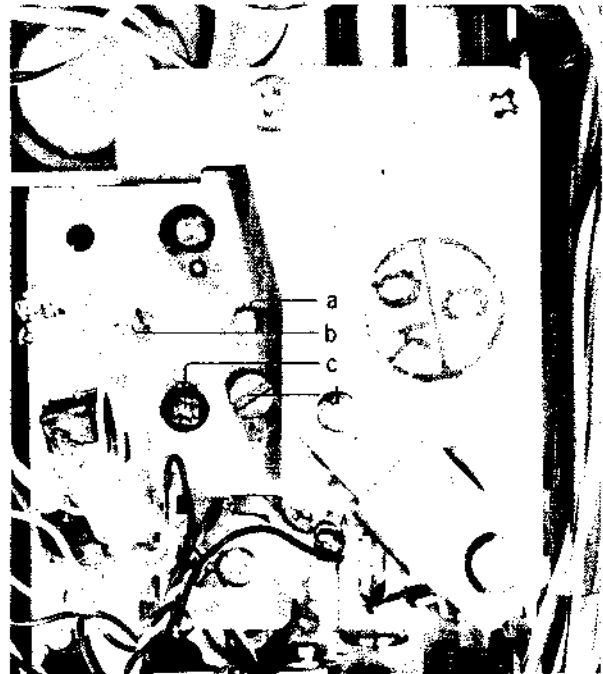

Fig. 1
- 2) Playback Program 3 of an 8,000 Hz. pre-recorded Tape and adjust Screw "c" shown in Fig. 1 so that the V.T.V.M. indication is maximum.
- 3) Playback Program 2 of \*Test Tape and adjust Screw "d" shown in Fig. 1 so that the V.T.V.M. indication is minimum.
- 5) The adjustments outlined in items 2) and 3) above will result in ideal head height position and minimize cross-talk.